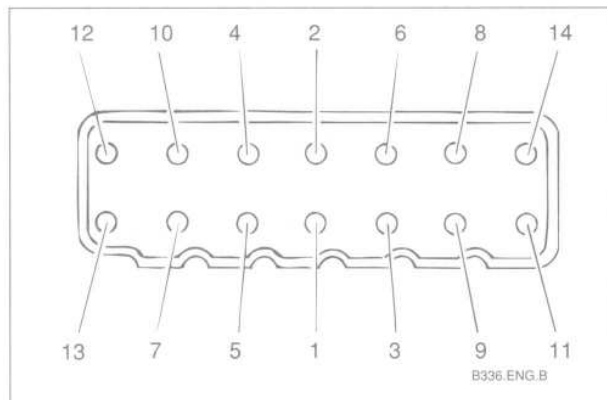

Fig. 42. Cylinder head bolt tightening sequence for M30 engine.
4. Tighten the new cylinder head bolts in the sequence shown in Fig. 42.